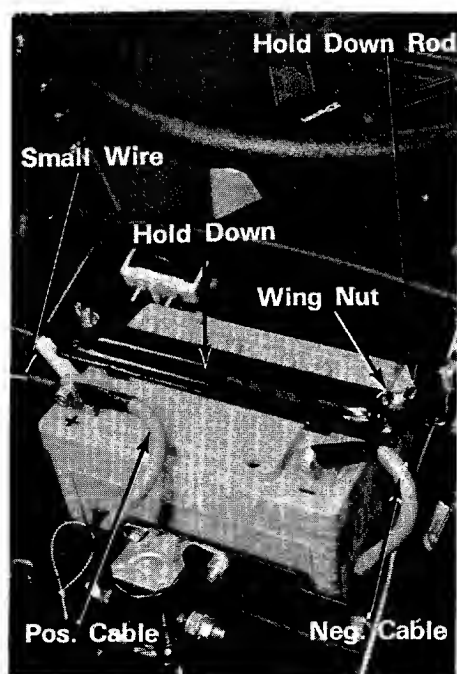

FIGURE 6.
5. Hook the hold down rods under the battery case and place the hold down over the manifold of the battery as shown in figure 6.